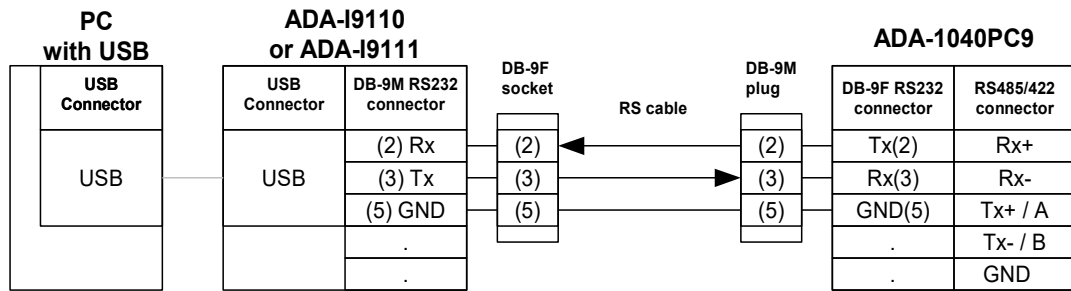

Fig. 5. ADA-1040PC9 connection to PC by the use of additional converter USB to RS232 (ADA-I9111 or ADA-I9110).
- USB computer port, should be used additional converter USB to RS232 (ADA-I9111 or ADA-I9110), which connect to RS232 port of ADA-1040PC3 as on diagram Fig.5.
The application of Line Termination (terminator) $R_t = 120$ ohms will reduce electrical reflection in data line at high baud rate. It is not needed below 9600Bd. Should be used the Line Termination resistor if the distance is over 1000m @ 9600Bd or 700m @ 19200Bd, and if the disturbance in transmission will appear. Example connection of R_t are shown on Fig. 5 & 6. Two $R_t = 120 \Omega$, 5%, 0,25W are delivered with the converters.